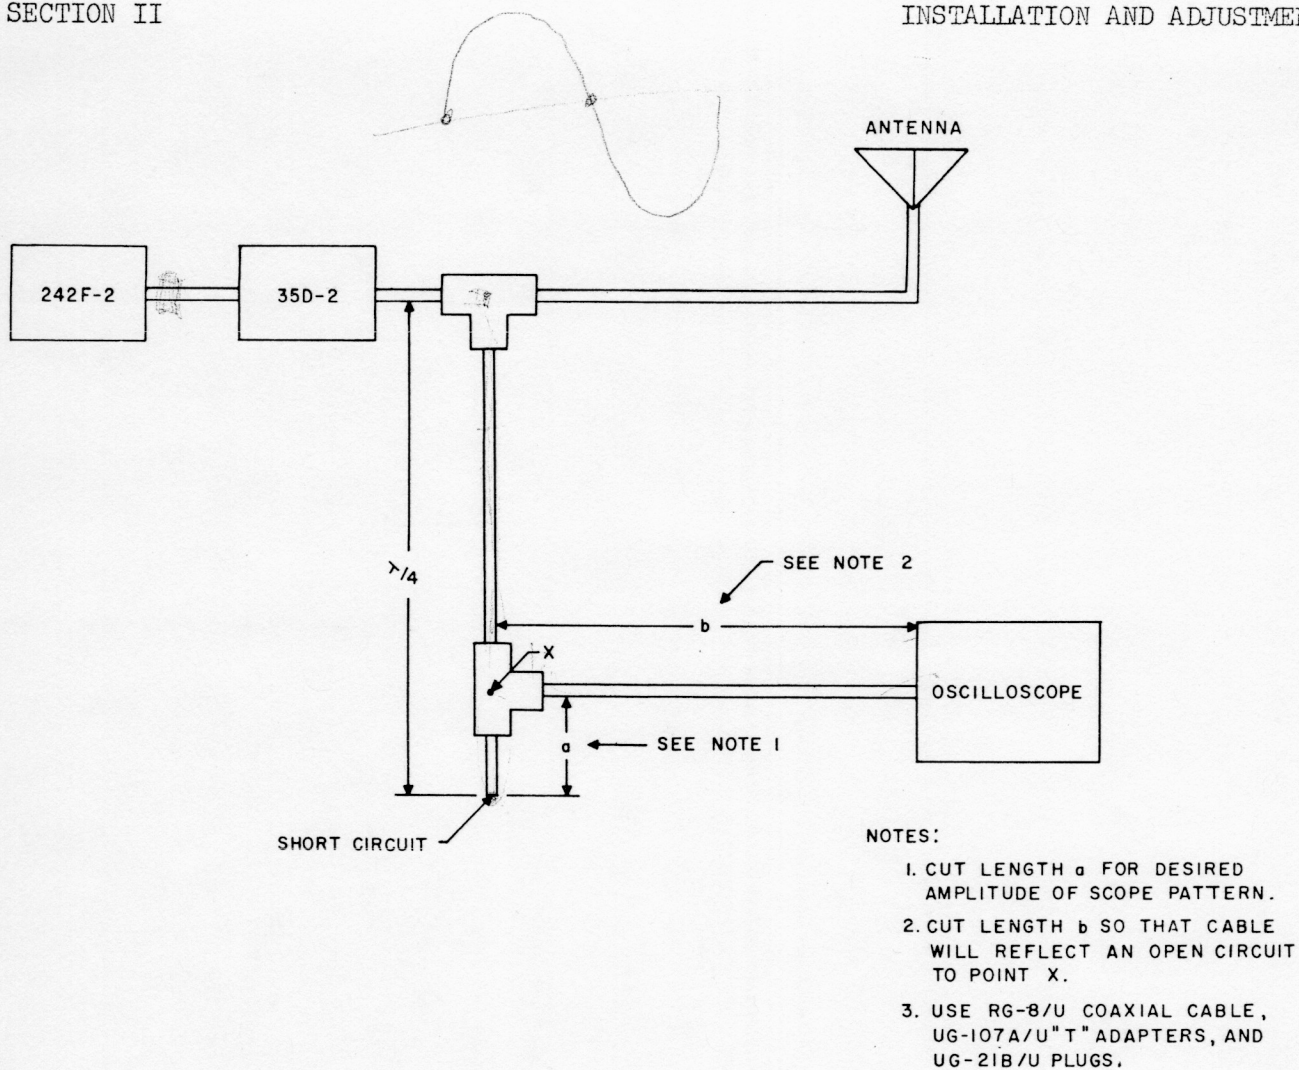

Figure 2-8. Oscilloscope Harness for 242F-2 Transmitter
c. MODULATOR UNIT. - Connect an oscilloscope (see paragraph 5-2) into the transmission line between the 35D-2 and the antenna (or the dummy load), using a harness composed of coaxial cable and "T" adapters, as shown in figure 2-8. If no audio limiting is desired, set the LIMITER IN-OUT switch to its OUT position and adjust the modulation level for each audio input device in the manner described in paragraph (1) below. If limiting is desired, set the LIMITER IN-OUT switch to its IN position, and adjust the modulation levels as described in paragraph (2). In installations where rapid attenuation of frequencies above 3000 cycles, but no limiting, is desired, set the LIMITER IN-OUT switch to its IN position and perform the adjustments described in paragraph (3).